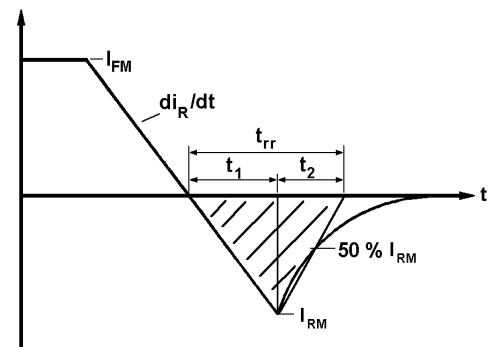

Fig. 1
- (i) Q_{rr} is based on 50% I_{RM} chord as shown in Fig. 1